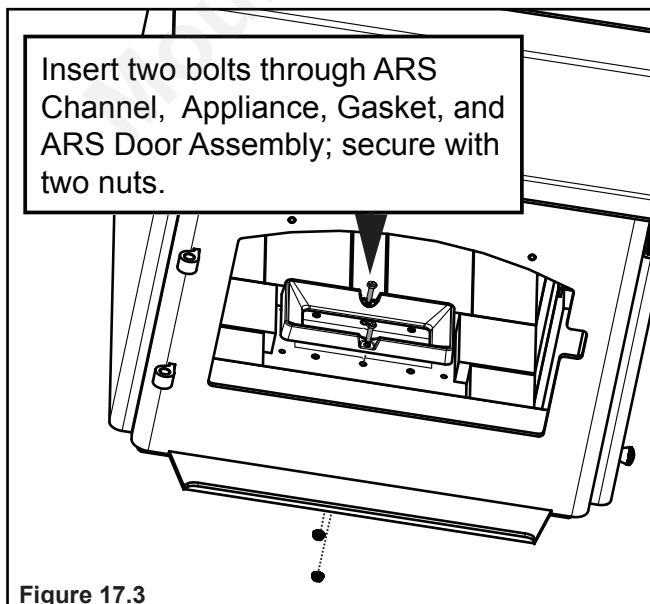

Figure 17.3
11. Using two bolts and two flange nuts to secure ARS channel using 3/8 open end wrench and 7/16 socket wrench (**Figure 17.3 on page 17**).
11. Use 2 bolts and 2 flange nuts to secure ARS channel using 3/8 open end wrench and 7/16 socket wrench (**Figure 17.3 on page 17**).